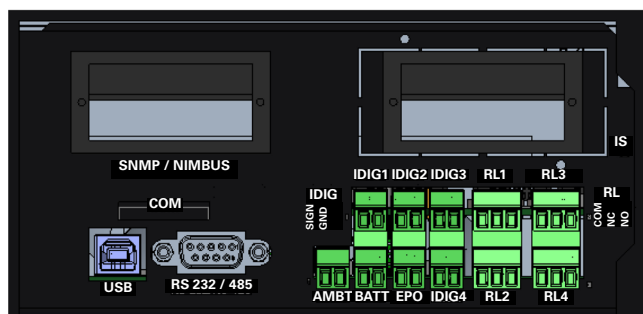
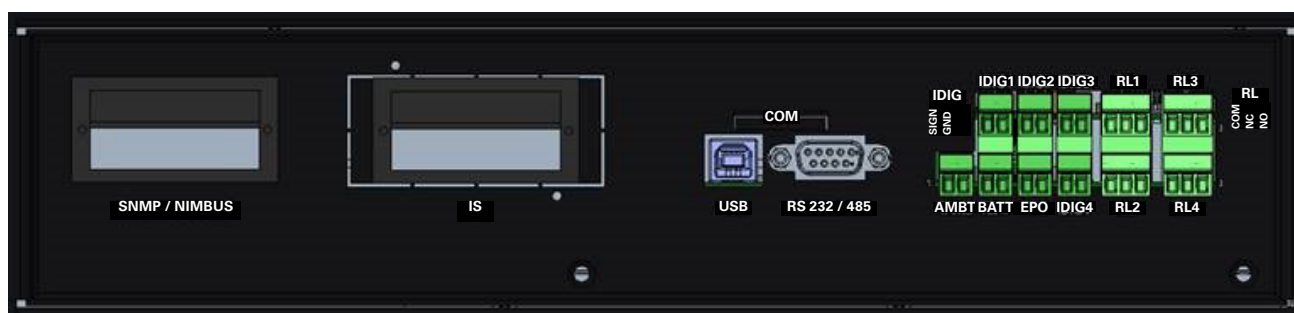

Fig. 42. Arrangement of the available connections in the communication interface in 2- and 4-slot UPSs.
Fig. 43. Arrangement of the available connections in the communication interface in 6-, 8-, 10- and 12-slot UPSs.
All of the aforementioned connections can be seen in Fig. 42 and Fig. 43 that appear below:
- In 2- and 4-slot UPSs it is located behind the cover via which you access the communication connections, next to the monitoring panel with a touchscreen, see Fig. 42.
- On UPSs with 6 power slots, it is located at the back of the device, see Fig. 43.